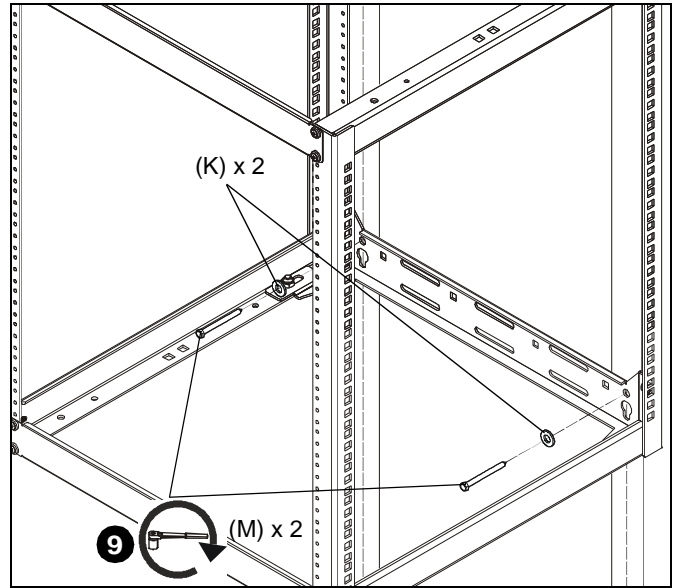

Figure 18
- Use two 5/16" x 3 1/2" lag bolts (M) and two 3/4" spacers (K) to secure lower part of rack to wall. (See Figure 18)